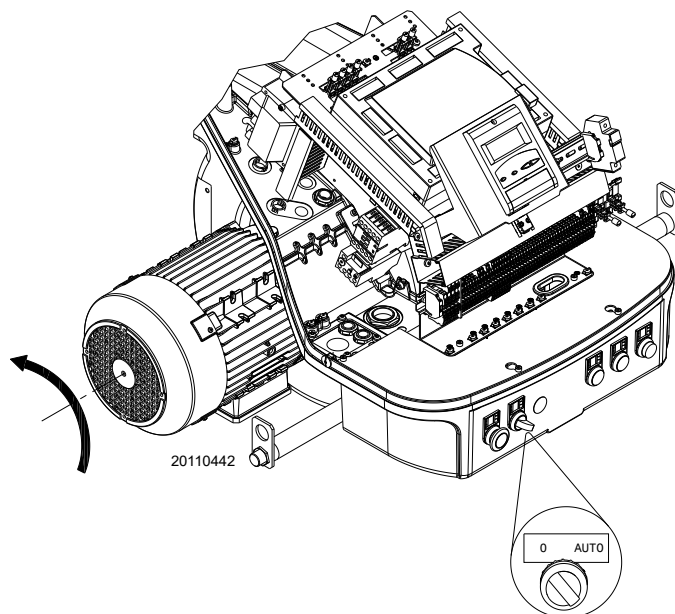

Fig. 31
Close the thermostats/pressure switches and turn the switch to Fig. 31 "AUTO".
If voltage is present, then **immediately** stop the burner and check the electrical wiring. When the burner starts, check the direction of the rotation of the motor, as shown in Fig. 31.
- place the switch of Fig. 31 in position "0" and wait for the control box to carry out the switch-off phase;
➤ removing the cover and working on the switch “0-AUTO” of Fig. 31 at page 33;